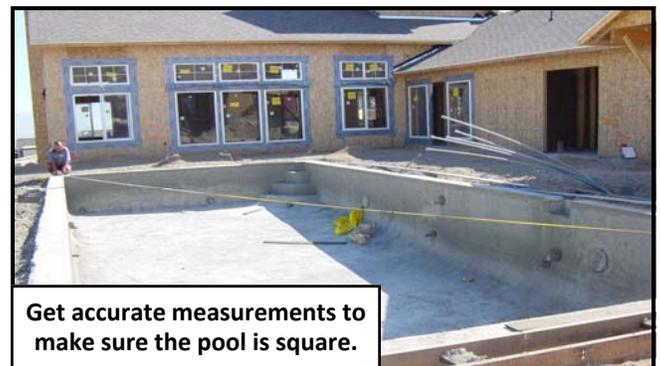

Fig. 1
- #12 x 1-1/2" Phillips Pan Head Screw (100)
- Red Holob Anchor #10 (100)
Step 1: Make sure the swimming pool has been built squarely. Measure the width of the pool at both ends; and the length at both sides. Take the diagonal measurements also. If the pool is square, move on to Step 2. If the pool is too uneven, installment may not be possible. **(Fig. 1)**